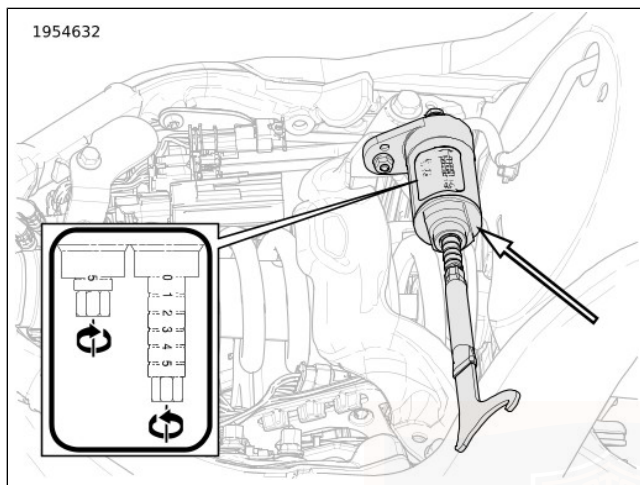

Figure 18. Preload Adjustment Screw
3. **Hydraulic under seat:** See Figure 18.